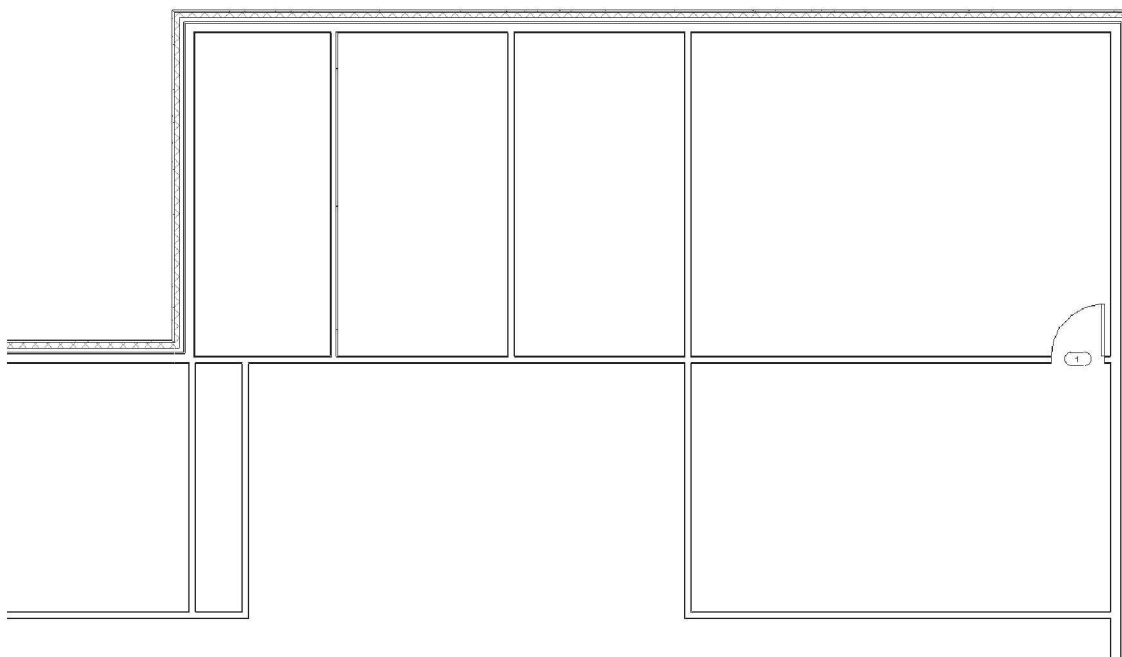

FIGURE 5-4.7 First door placed on Level 1, Northeastern room
8. In the **Level 1** floor plan view, insert one door in the Northeastern-most room as shown in Figure 5-4.7.